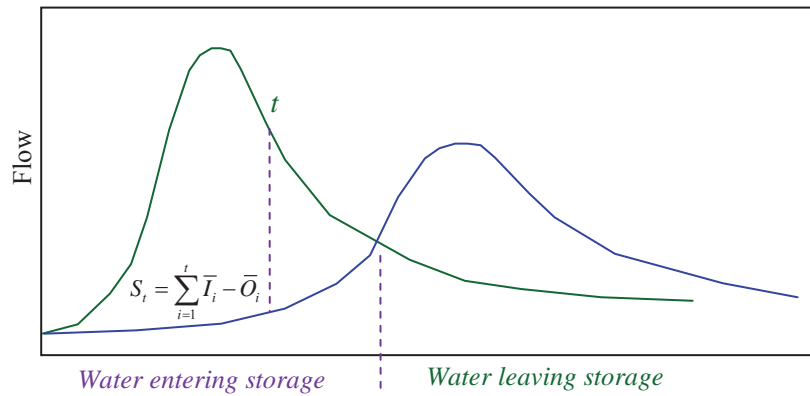

Figure 4 Storage calculation
From the Eq (4), $S = K[XI + (1 - X)O]$, so S and $[XI + (1 - X)O]$ have a linear relationship and its slope is K . The storage S can be worked out by accumulating $(I_{mean} - O_{mean})$ from each time step $S_t = \sum_{i=1}^t \bar{I}_i - \bar{O}_i$ (Figure 4). For $[XI + (1 - X)O]$ calculations, only use the instantaneous values.